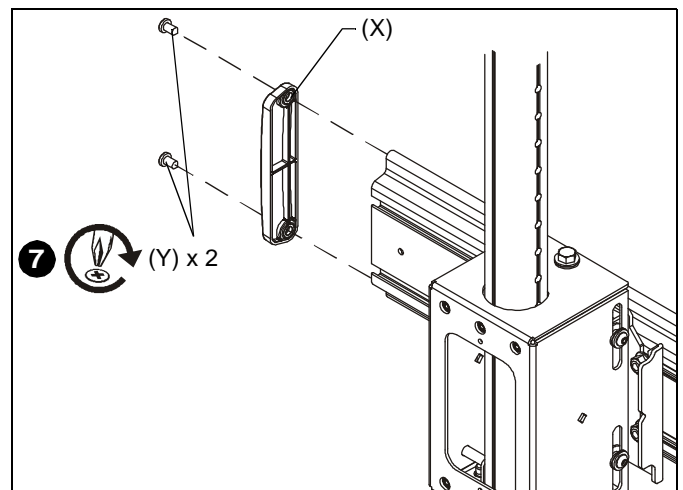

Figure 7
- Repeat for remaining array head (FF).
- Add one end cap (X) to each end of mounting rail, and fasten in place using two 1/4-20 x 1/2" Phillips self-tapping screws (Y) for both end caps. (See Figure 7)